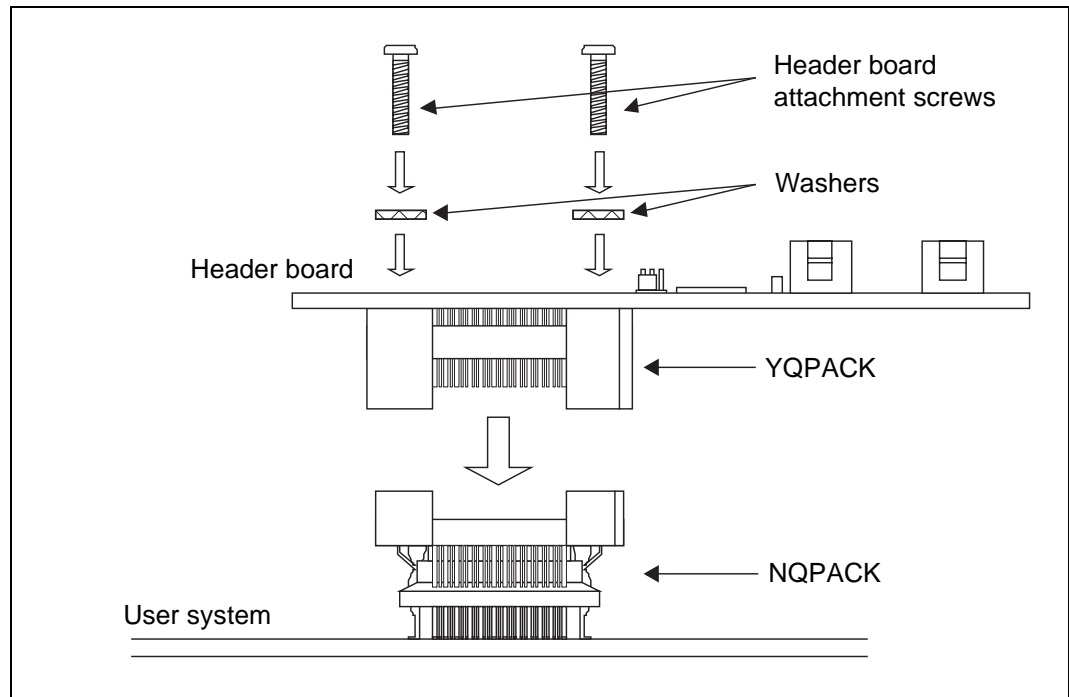

Figure 3.2 Header Board Connection Procedure
2. Insert the header board attachment screws, together with washers, into the four screw holes in the top of the header board and tighten the diagonally opposite screws in turn (See Figure 3.2) .